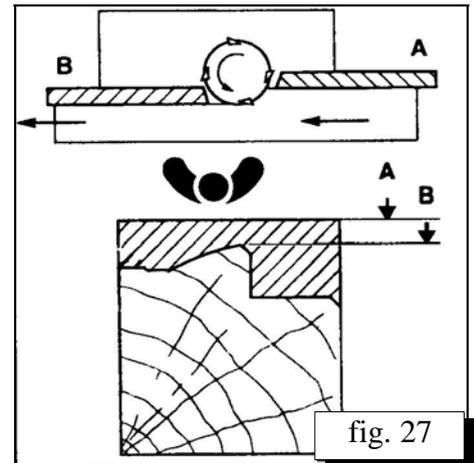

fig. 27
For profiling of the whole length of the piece the ruler B should be adjusted leveled to the tool (fig. 27).
- ⌘ To assemble protective box A with fulcrum rulers on the working table B /see fig. 27/.